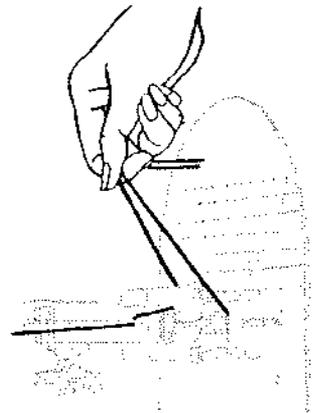

Fig. 33
3. Lay both threads back under presser foot diagonally across feed to the right or left depending upon which side of the needle the material is to be located. See **Fig. 33**. When the presser foot is lowered the threads will be firmly held between the feed and the presser foot.